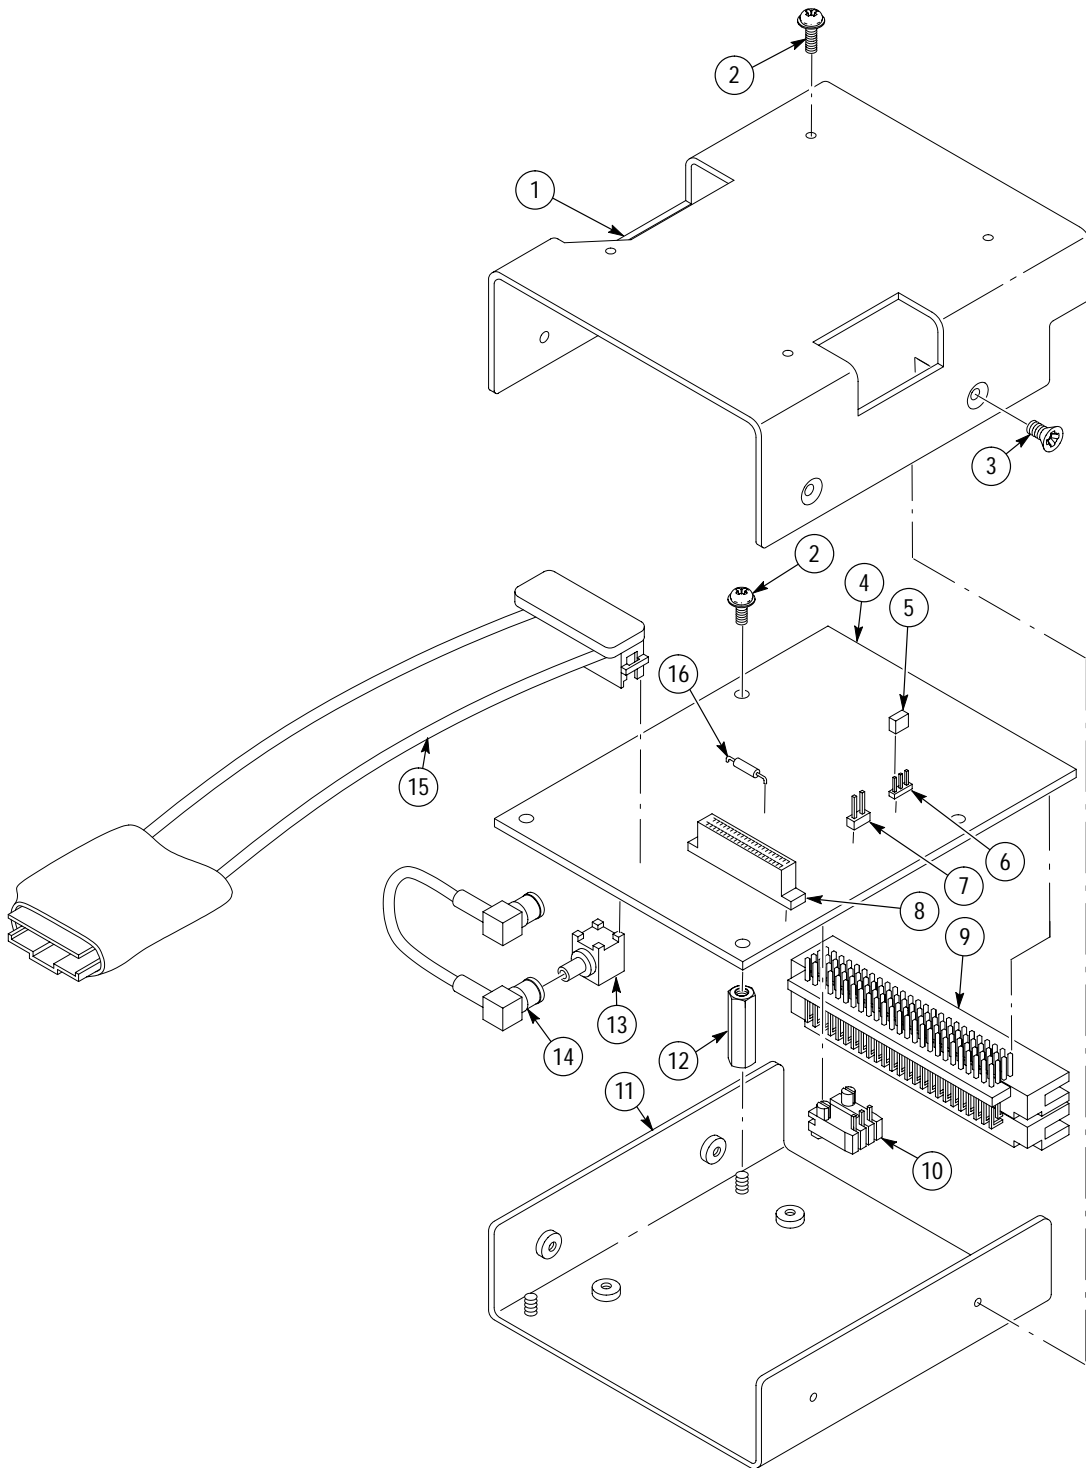

Figure 1: Exploded view
- Verify the jumpers on the probes are in the correct positions for your application. If necessary, refer to Figures 1 through 4 on pages 3 through 6 in this manual for the jumper settings and locations.